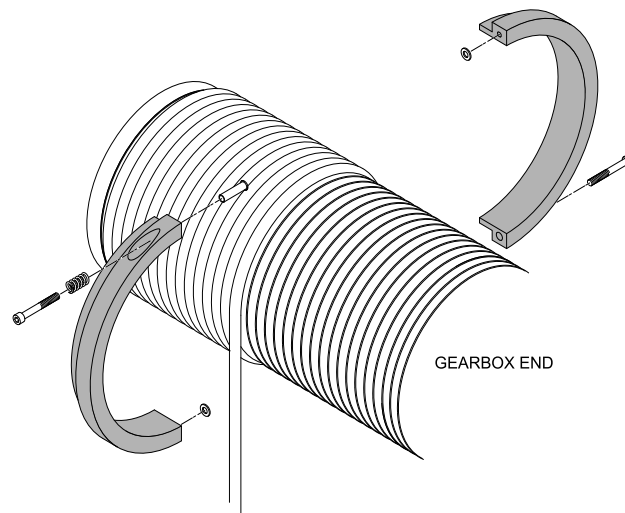

Figure 31 –Fitting Top and Bottom Halves of Rope Guide Inner Band
- Release the two screws joining the two halves of the inner band and remove the inner band (see Figure 31). Retain all screws, washers, spacers and springs.